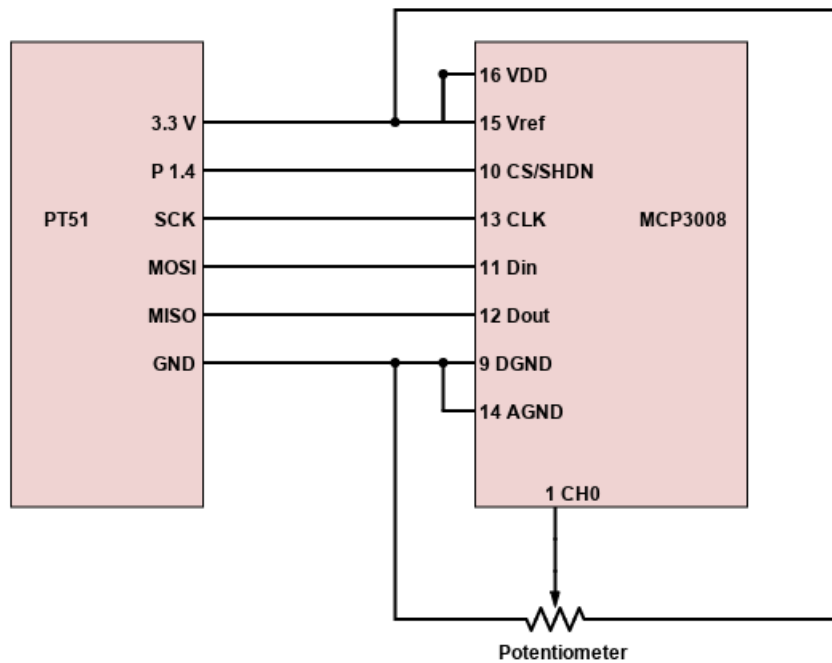

Figure 1: Pt51 interfacing with ADC and potential divider.
- ii) You will next test the ADC setup using a potential divider circuit (series of resistors provided in the kit can be connected between supply and ground terminals) as shown in Fig 1. By varying the point at which the output is taken, voltages ranging from 0 to 3.3 volts can be obtained as output. As shown this output is connected to `CH0` of the ADC. By compiling the project and running the code on the Pt-51 kit, the measured output voltage will be displayed on the LCD in the format shown.